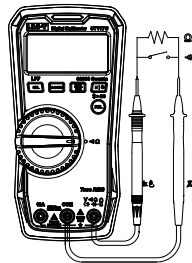

Figure 6
- 4) In ACV position, long press SEL to enable LPF function. Composite sinusoidal signal generated by inverter or variable-frequency motor can be measured through the LPF function, as shown in Figure 6 below Long press SELECT again to exit LPF function.
4. Continuity measurement (Figure 6)
5. Resistance measurement (Figure 6)